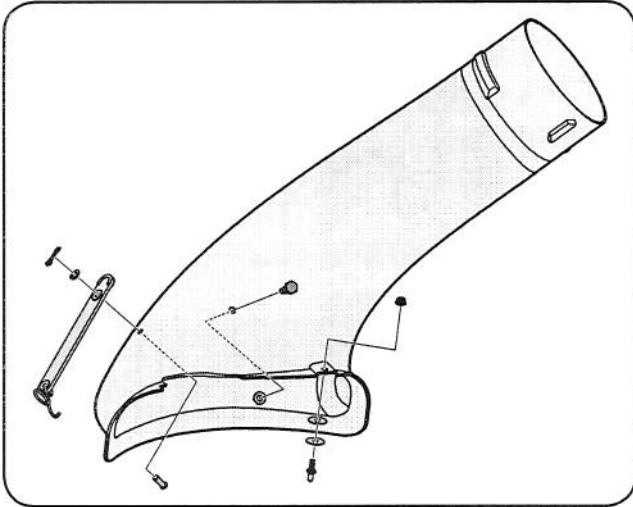

Figure 4-20
- Install one of the rubber chute straps onto the chute elbow using one of the supplied clevis pins (711-05063), washer (736-0204) and Bow-tie cotter pins (714-04040) from hardware pack 689-00092B. See Fig. 4-20. Secure the end of the strap utilizing the hole furthest from the end, insert the torsion spring hook (732-04510A) into the other end.
- Install the deck mounting pin (711-05049), along with two flat washers (736-0176), up into the chute elbow using hardware pack 689-00092B and secure with a flange lock nut (712-3027), as seen in Fig. 4-20.
- Install the shoulder bolt (738-0754) into the chute elbow from the top side and secure inside the chute elbow using a flange lock nut (712-04063) from the same hardware pack (689-00092B). See Fig. 4-20.